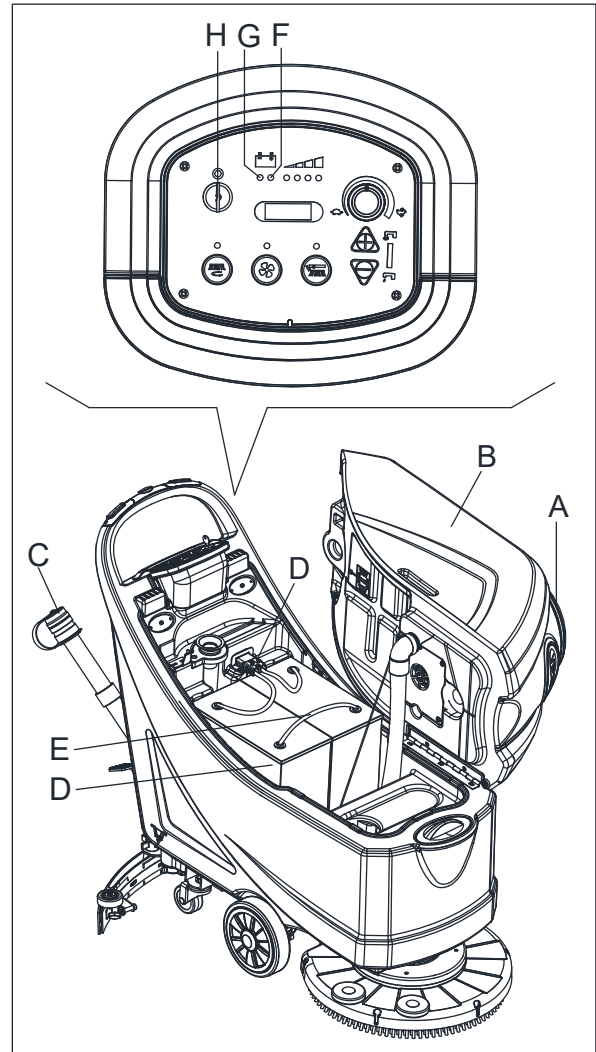

Figure 14
Charge the batteries when the yellow (F, Figure 14) or red warning light (G) turns on, or when finishing cleaning.
1. Open the cover (A, Figure 14) and check that the recovery water tank (B) is empty, otherwise empty it with the drain hose (C).
3. Turn the ignition key (H) to "0".
4. Carefully lift the tank (B).
- Check the level of electrolyte inside the batteries (D); if necessary, top up through the caps (E).
- Leave all the battery caps (E) open for next charging.
- If necessary, clean the upper surface of the batteries (D).